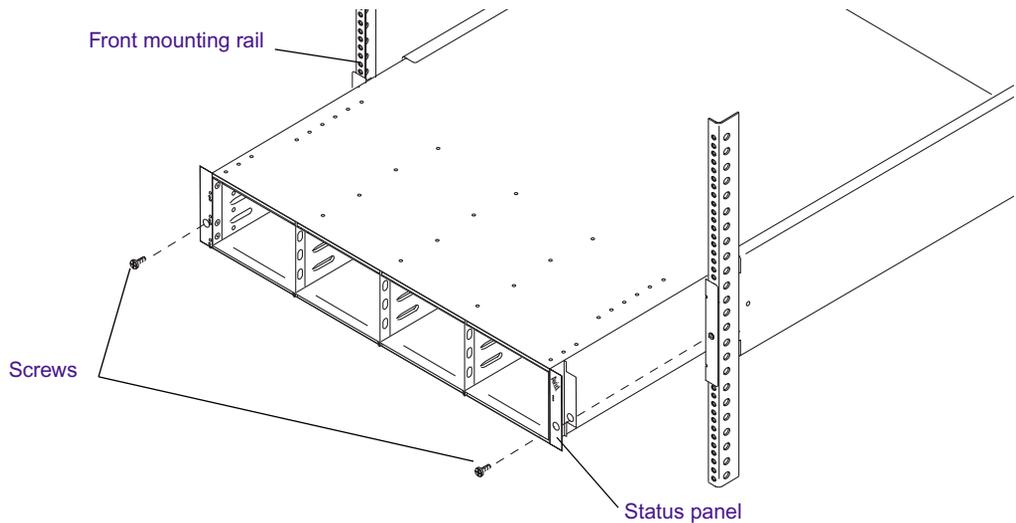

Figure 49 Installing a MediaDock Ultra320
1. From the front of the rack, position the MediaDock Ultra320 in the set of support rails (see Figure 49). Slide the MediaDock Ultra320 in until the MediaDock Ultra320 is flush against the front mounting rails.